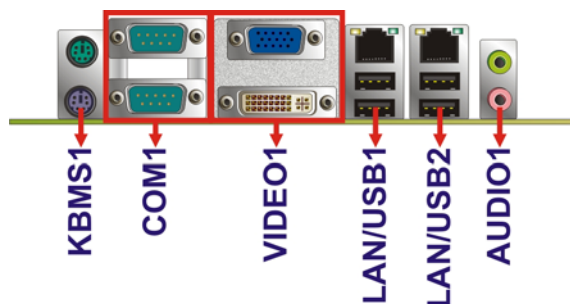

Figure 3-20: External Peripheral Interface Connector
CN Location: See **Figure 3-20**
- CN Location:** See **Figure 3-20**